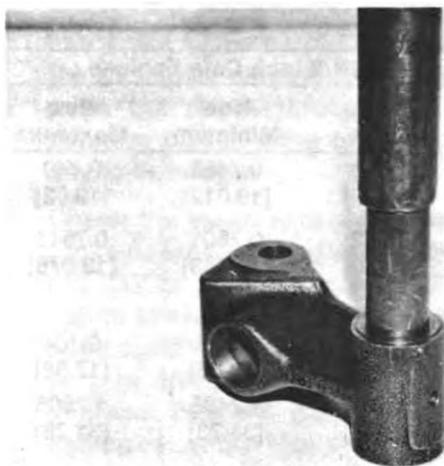

Fig. 4-13 (N10403). Remove The Bushing From The Cam Follower.
1. Remove the bushing in the cam follower if the inside diameter of the bushing is more than 0.752 inch [19.10 mm]. Use the ST-249 Lever Bushing Block and Mandrel to remove the bushing, Fig. 4-13.